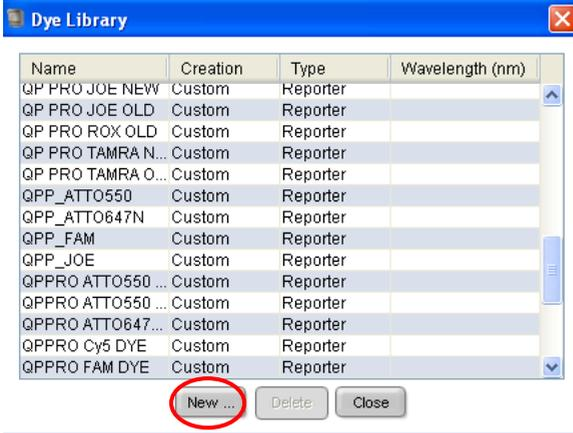

Figure 17. Selecting new dye calibration from the Dye Library.
5. In the **Dye Library** window click **New** (Figure 17).